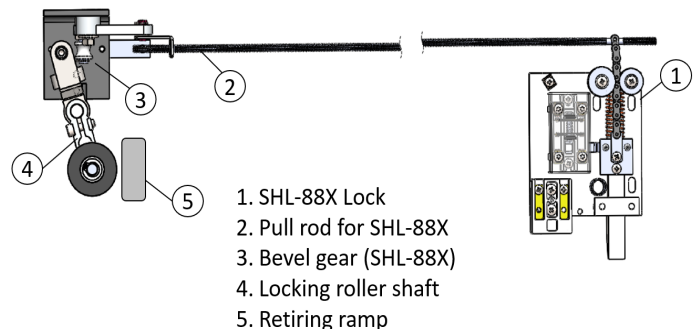

Figure 8 Mounting of the roller for SHL-88X lock
The pull rod ② (995mm- can be ordered in different lengths) is mounted with lock ①. Bevel gear ③ is mounted to other end of pullrod. Locking roller shaft ④ is mounted on linkage arm and tightened. The roller should be centered over the retiring ramp ⑤. The linkage arm is finally adjusted so that the roller is about 2 mm from the retiring ramp when the ramp is retracted. **Fig.8** represents mounting of the roller for SHL-88X. For **SHL-86** use pull rod (Art.no: 2040016) and bevel gear SHL-86 (Art.no: 2040015). SHL-rope comes with control wire instead of pull rod. The sub components is included in the kits.